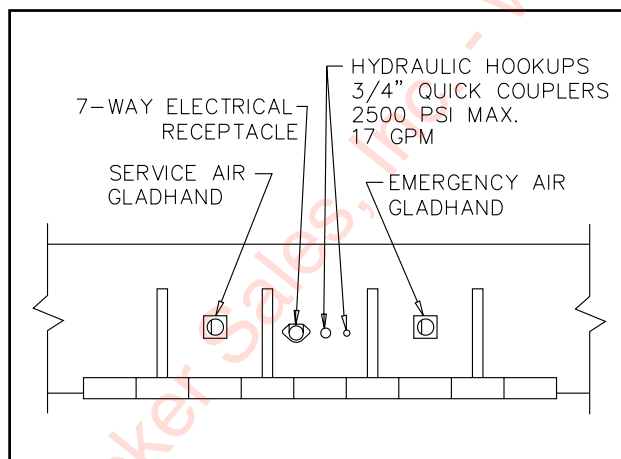

Figure 3-3 Service Hookups
3-2.3 Connect the service and emergency air hoses of the towing vehicle to their respective gladhand on the front of the semitrailer; red emergency line to the gladhand with the "EMERGENCY" tag, and the blue service line to the gladhand with the "SERVICE" tag (See Figure 3-3). Chock the semitrailer wheels before activating the semitrailer air supply valve in the towing vehicle. Set the parking brakes.
- 3-4.1 Connect the towing vehicle 7-pole electrical plug to the electrical receptacle on the front of the semitrailer (See Figure 3-3).